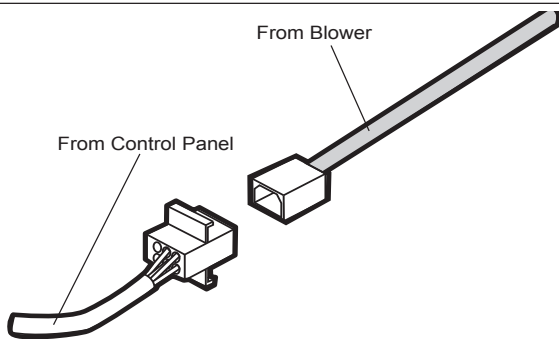

Figure 14: Wiring the Hood with an Integral Blower
- Connect the blower's Molex plug connector to the connector present inside the hood, as shown in *Figure 14*.